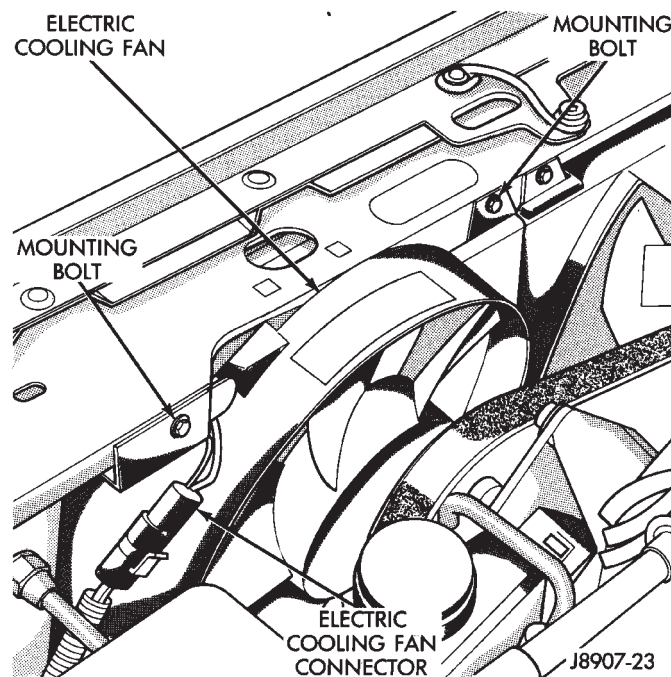

Fig. 31 Auxiliary Electric Cooling Fan Wiring Connector—Typical
- (1) Disconnect negative battery cable at battery.
- (2) Observe the previous **WARNINGS**.
- (3) Remove pressure cap.
(4) For access to radiator draincock, remove radiator grille mounting screws and remove grill. Refer to Group 23, Body for procedures.
(5) Attach one end of a 24 inch long X 1/4 inch ID hose to the radiator draincock. Put the other end into a clean container. Open draincock and drain radiator.
(6) If equipped, disconnect auxiliary electric cooling fan electrical connector (Fig. 31).